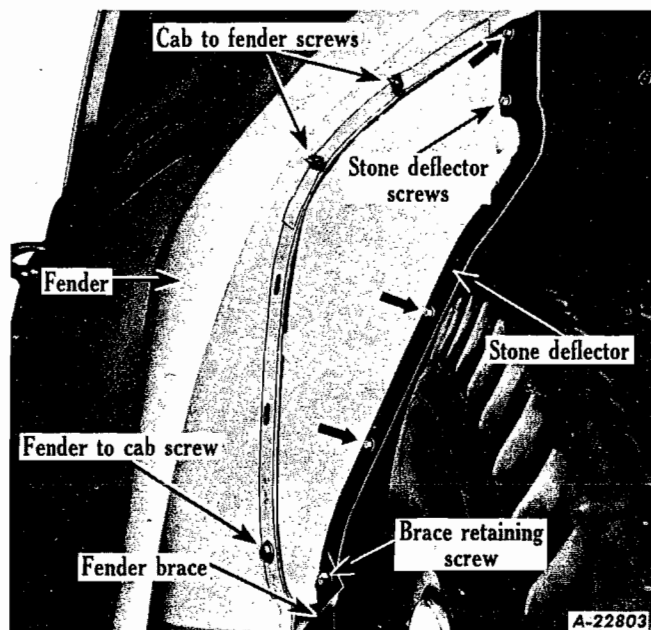

Fig. 62
7. Remove fender brace retaining screw (both sides) from cab (Fig. 62).
8. Remove four fender stone deflector to cab retaining screws on both sides (Fig. 62).
9. Remove fender to cab retaining screw and two cab to fender retaining screws from inside of cab on both sides (Fig. 62).